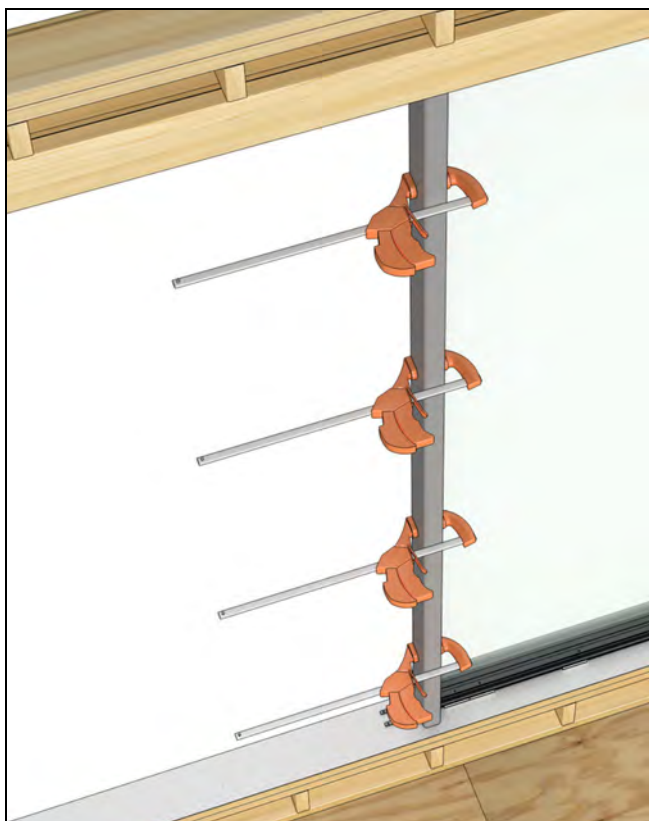

Figure 121
12. Position the steel tight against the mull filler blocks, then clamp the steel to the frame. See Figure 120 and Figure 121.